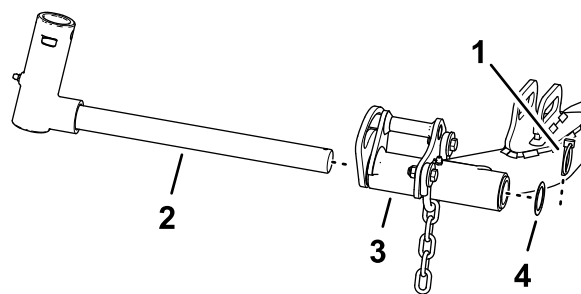

Figure 25
- Remove the lynch pin and washer securing the pivot yoke to the lift arm and slide the shaft out of the lift arm (Figure 25).